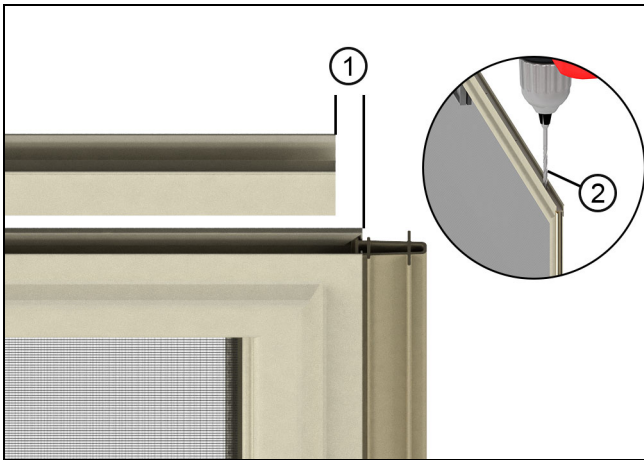

Figure 5
2. Align the astragal approximately 7/32" (6) from the bottom of the stile with the handle and pre-drill the stile with a 3/32" (2) drill bit, using the holes in the astragal as a guide. See Figure 5.